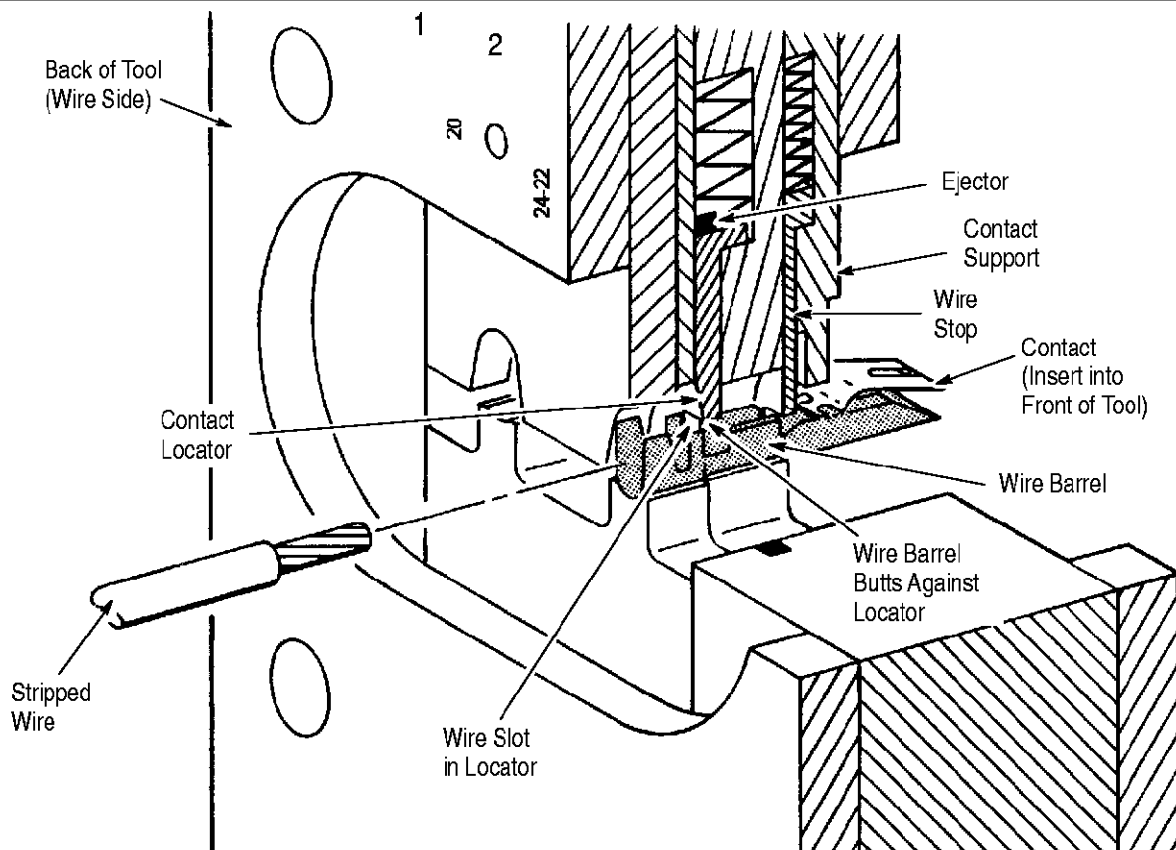

Figure 3
Refer to Figure 3 and proceed as follows:
1. Hold tool so that the BACK (wire side) is facing you. See Figure 3.
4. Position the contact in the crimpers so that the locator enters the locator slot. See Figure 3.
5. Next, push the contact in until the WIRE BARREL butts against the contact locator. See Figure 3.
7. Insert a properly stripped wire through the locator wire slot and into the wire barrel of the contact until it butts against the wire stop. See Figure 3.